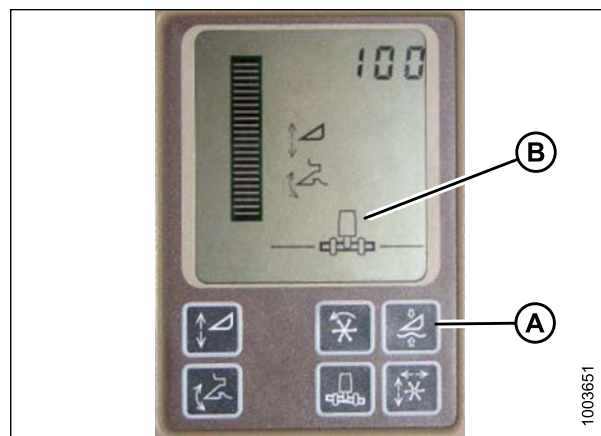

Figure 6.217: John Deere Combine Display
Do **NOT** use the active header float function (A) in combination with the MacDon auto header height control (AHHC)—the two systems will counteract one another. The header symbol (B) on the display should **NOT** have a wavy line under it and should appear exactly as shown on the Active Header Control Display in Figure 6.217, page 255.